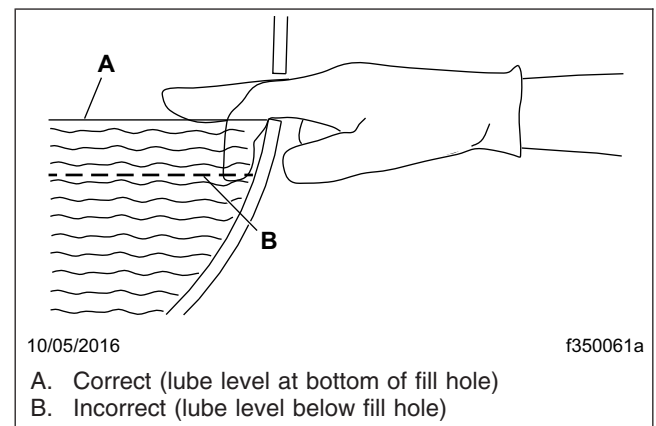

Fig. 1, Axle Lubricant Level Inspection
4. Check that the lubricant is level with the bottom of the fill hole. See **Fig. 1**. If low, check for oil leaks, and correct as needed. Add oil to the level of the fill plug, using the lubricant recommended in **Table 1**. See **Table 2** for lubricant capacities.